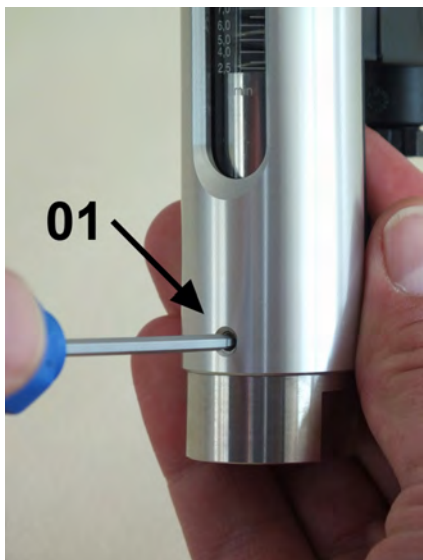

Fig. 47: Secure the process connection (inlet)
- 9.** → Secure the inlet process connection to the device housing with 3 hex socket screws (Fig. 47/01), observing the proper torque.